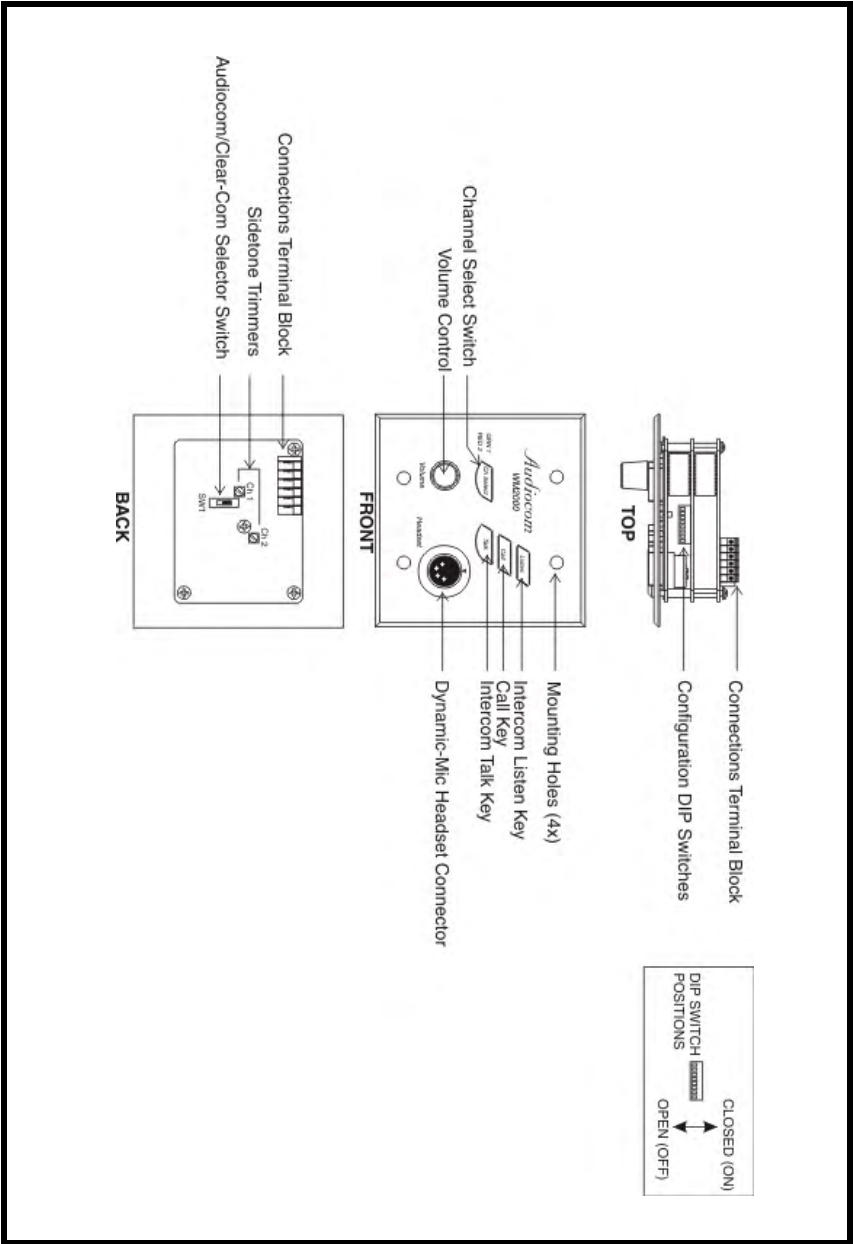

FIGURE 1. Reference View, WM-2000 shown.
Before making connections, read the configuration switch notes that follow and make sure all switches are properly set for your intended usage. Chapter 1, “Configuration Switch Settings,” on page 7 lists the switch descriptions and factory default settings. The location of the DIP switches are shown in Figure 1 on page 2.
4. Using a small, flathead screwdriver, adjust the **channel 1 sidetone trimmer** (Figure 1 on page 2) to minimize you voice level in the headphones